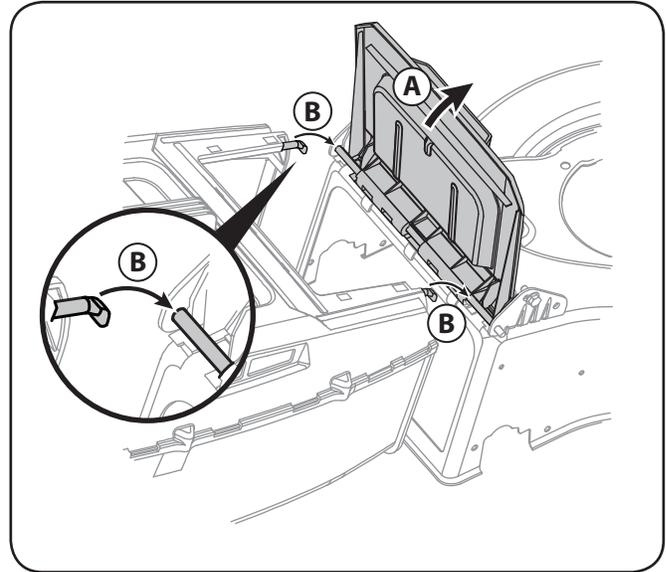

Figure 3-7
- b. Place grass catcher hooks onto the rear door pivot and press them to ensure they sit in place as shown in Fig 3-7. Let go of discharge door so that it rests on the grass catcher.